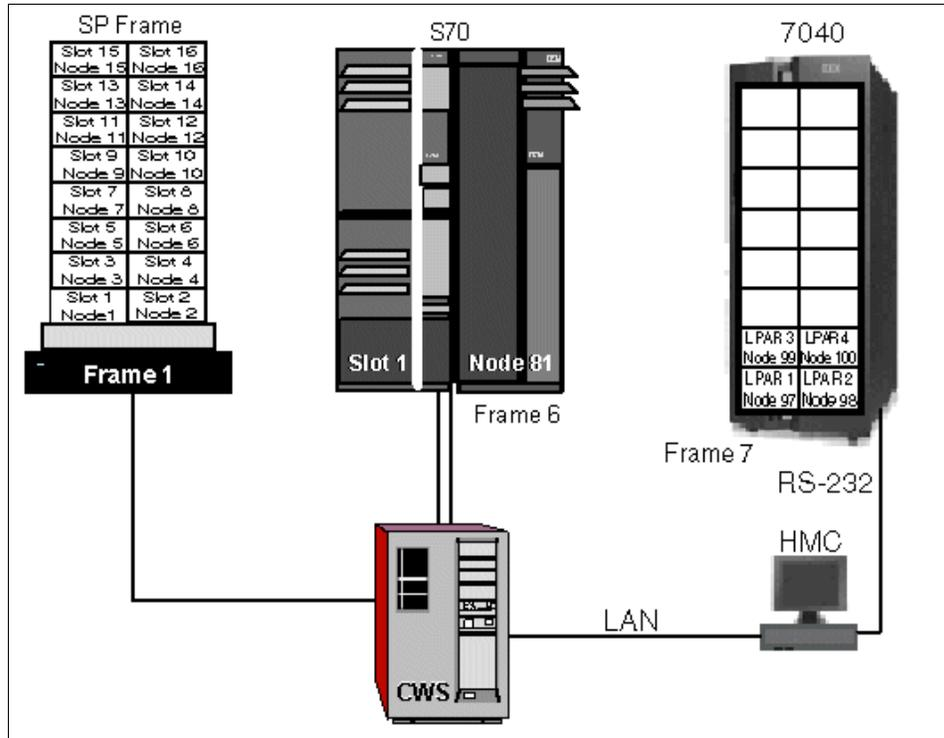

Figure 2-40 Node numbering
- ▶ Each SP-attached server installed in the SP system subtracts one node from the total node count allowed in the system. However, as the server has frame-like features, it reserves sixteen node numbers that are used in determining the node number of nodes placed after the attached server. The algorithm for calculating the node_number is demonstrated in Figure 2-40 on page 87.